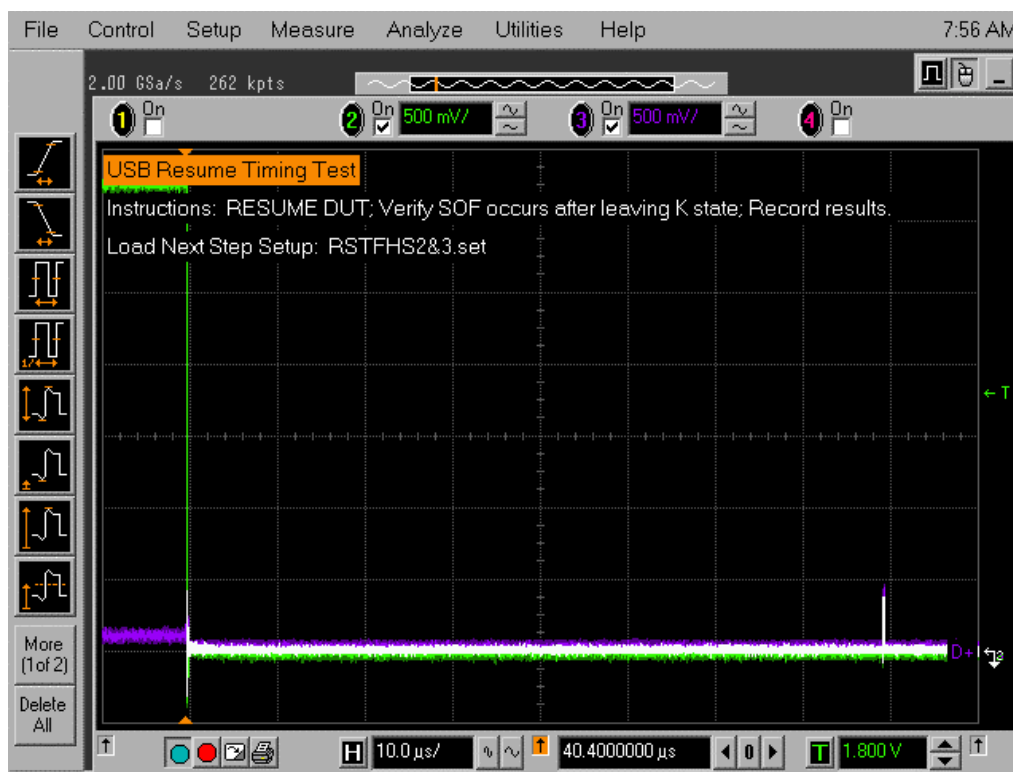

Figure 29. Time to First EOP from Start of HS Idle
- b. The captured suspend transition should appear as in Figure 29.
9. Measure the time from the falling edge of D+ to the first SOF issued by the host (EL_41) as shown in Figure 29.